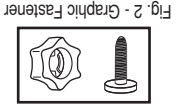
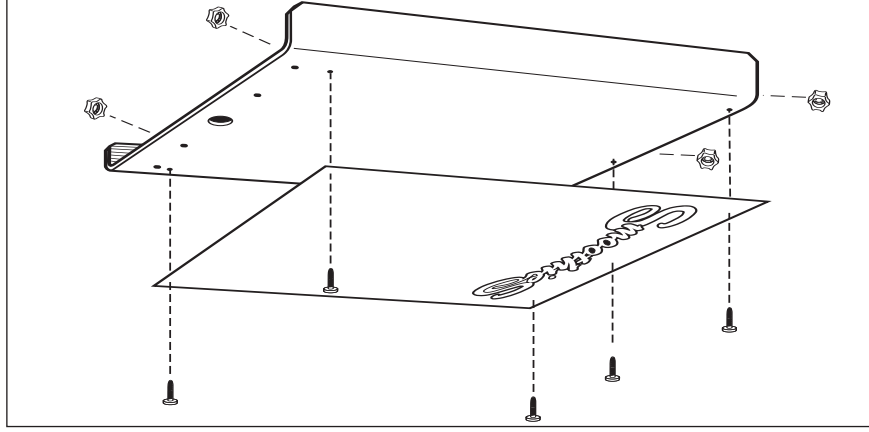

Fig. 2 - Graphic Fastener
Figure 1
1. Lay Back Panel on flat surface with flanges facing down. Place two-sided Graphics Panel, with desired graphics facing up, on top of Panel so that the screw holes align (see Fig. 1).
2. Unsnap the five (5) graphics fasteners (see Fig. 2) included with the Graphics Panel and separate the plastic nuts from the screws. Insert the screws into the five holes to secure the Graphics Panel to the Back Panel (see Fig. 1). Hand-tighten each fastener from the back with the plastic nuts until the Graphics Panel is securely attached to the Back Panel. Set Back Panel with attached Graphics aside.